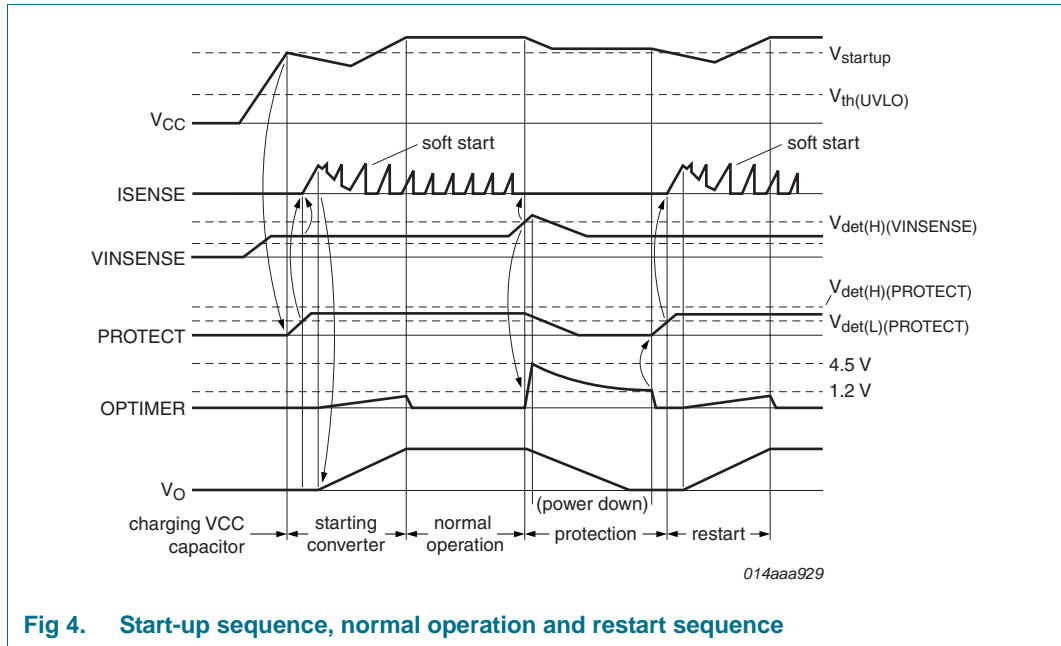

Fig 4. Start-up sequence, normal operation and restart sequence
A restart caused by a protection rapidly charges the OPTIMER pin to 4.5 V (typical). The TEA1733(L) enters Power-down mode until the OPTIMER pin discharges down to 1.2 V (typical). In Power-down mode, the IC consumes a very low supply current (10 μ A typical) and the VCC pin is clamped at 22 V (typical) by an internal clamp circuit. When the voltage on pin OPTIMER drops below 1.2 V (typical) and the VCC pin voltage is above the VCC start-up voltage (See Figure 4), the IC restarts.